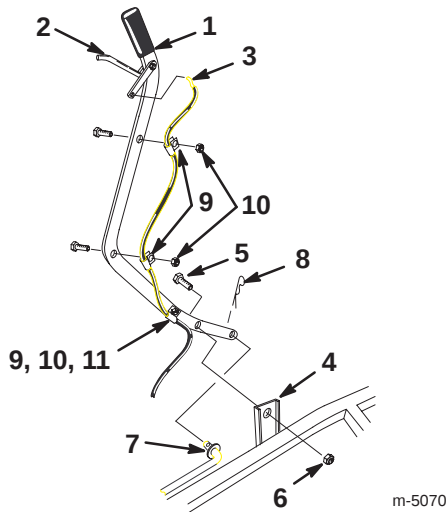

Figure 13
1. Attach the control handle to the pivot support using the pivot bolt (1/2 x 1 inch) as shown in Figure 13.
2. Screw the bolt into the pivot support until the handle is snug and then back it off slightly to let the handle pivot freely (Fig. 13).
3. Install the jam nut (1/2 inch) on the pivot bolt to lock it in place (Fig. 13).
4. Rotate the control handle to align the hole at the bottom of the handle with the control rod (Fig. 13).
5. Insert the control rod end through the handle end and secure it with a large hairpin cotter (Fig. 13).
6. Connect the Z-fitting on the end of the cable to the release lever (Fig. 13).
14. Pull down on the cable jacket to remove the slack and secure the cable to the handle using 3 cable clips, 3 bolts (1/4 x 1 inch), and 3 locknuts (1/4-20 inch) as shown in Figure 13.